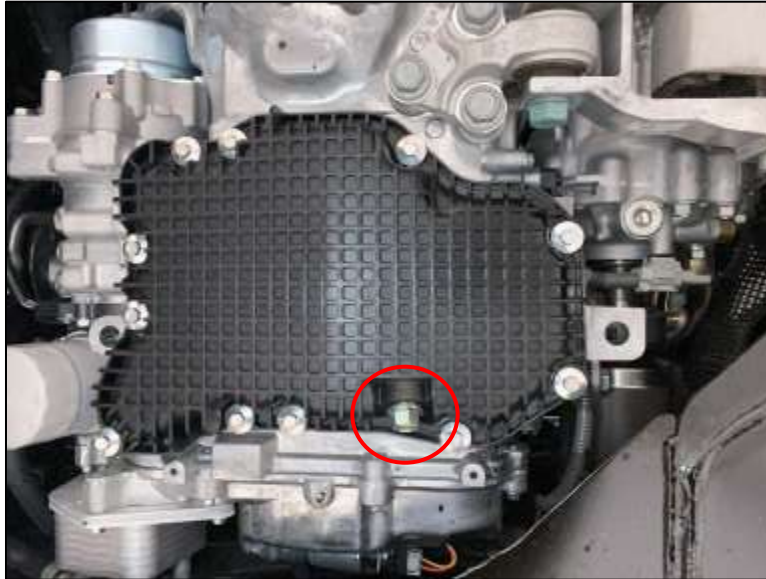

Figure 1
4. Remove the Oil Drain Plug to drain and collect Engine Oil. *Figure 1.*